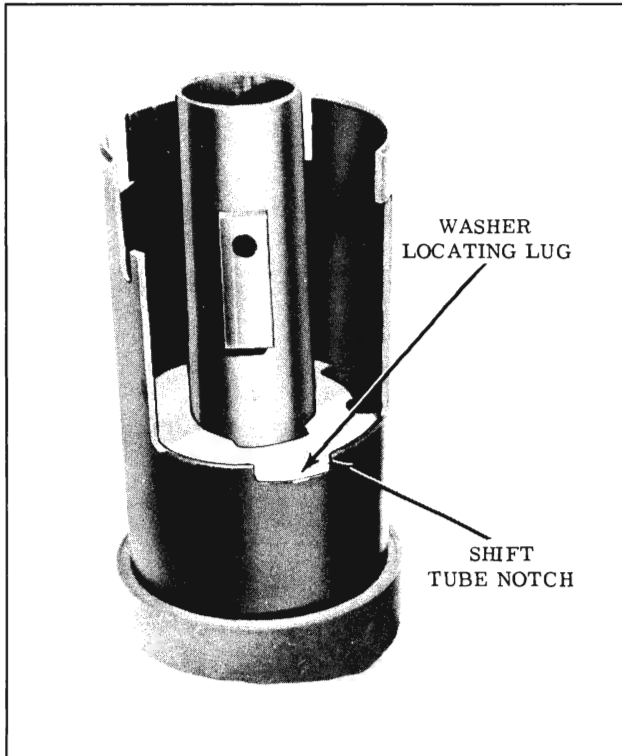

Fig. 4-298 Upper Shift Tube Washer
12. Position the upper shift tube washer over the shift tube and inside the mast jacket with the locating lug and notch aligned. (Fig. 4-298)